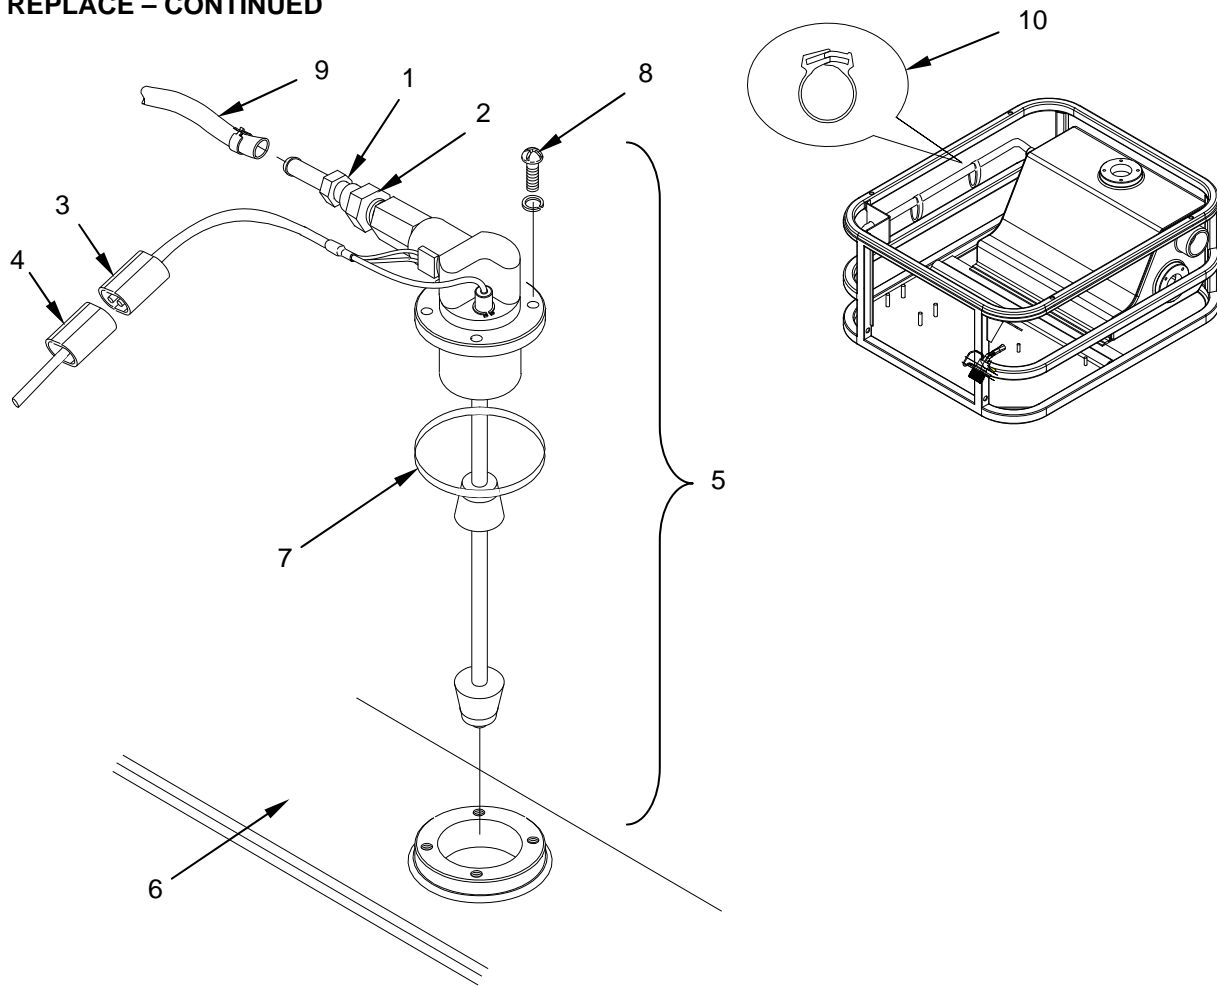

Figure 5. Replace the Vent Valve Assembly.
5. Remove the check valve (Figure 5, Item 1) by holding the solenoid fitting (Figure 5, Item 2) with a suitable wrench while turning the check valve with another suitable wrench. Be careful not to turn the fitting on the solenoid valve.
6. Disconnect the wiring connector (Figure 5, Item 3) from end of the harness (Figure 5, Item 4).
7. Remove the vent valve assembly (Figure 5, Item 5) from the fuel tank (Figure 5, Item 6).
8. Discard the old O-ring (Figure 5, Item 7).
9. Lubricate the new O-ring (Figure 5, Item 7) with clean fuel and install.
10. Place the serviceable vent valve assembly (Figure 5, Item 5) into position into the fuel tank (Figure 5, Item 6). Ensure the vent is facing the rear of the MBU.
11. Install the four screws (Figure 5, Item 8) that secure the vent valve assembly to the fuel tank (Figure 5, Item 6).
12. Install the check valve (Figure 5, Item 1) by holding the solenoid fitting (Figure 5, Item 2) with a suitable wrench and turn the check valve with another suitable wrench. Be careful not to turn the fitting on the solenoid valve.
13. Connect the wiring connector (Figure 5, Item 3) from end of the harness (Figure 5, Item 4).
14. Connect the air line (Figure 5, Item 9) to the check valve (Figure 5, Item 1).
15. Install the retainer clamps (Figure 5, Item 10) around the fuel line assembly (Figure 5, Item 5), air line (Figure 5, Item 9), and wire leading to the wiring connector (Figure 5, Item 3).